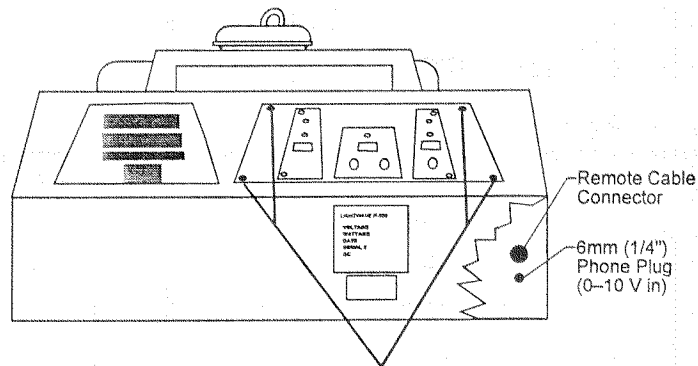

FIGURE 5: REMOTE MOUNTING SCREWS
- Step 1:** Loosen the four #8 screws that hold the timer remote to the *F-100* chassis. (Refer to Figure 5)